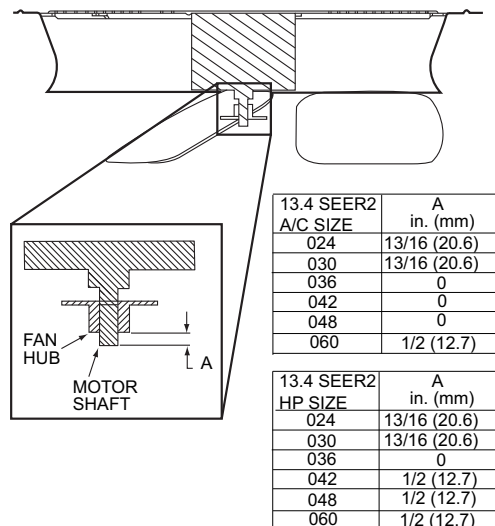

Fig. 18 – Outdoor Fan Adjustment
5. When replacing fan blade, position blade as shown in Fig. 18. Tighten setscrews.